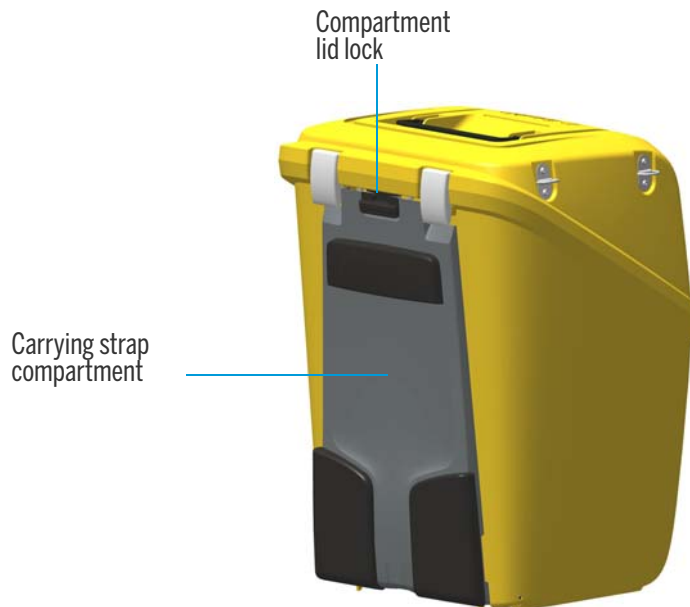

Figure 6.1 Instrument case with the carrying straps inside the compartment
1. Press the compartment lid lock downward and open the carrying strap compartment. See Figure 6.1